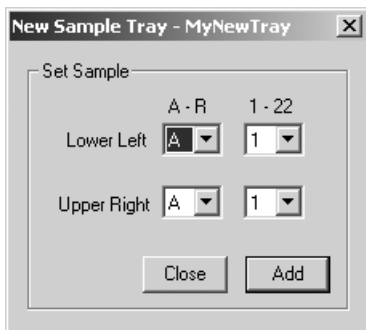

Figure 3-5. The New Sample Tray window.
7. Click **New Sample**. The New Sample Tray window appears (figure 3-5).
- **Add a new set of coordinates**—Click **New Sample**. The New Sample Tray window appears (figure 3-5). Select the coordinates in the New Sample Tray window and click **Close**.